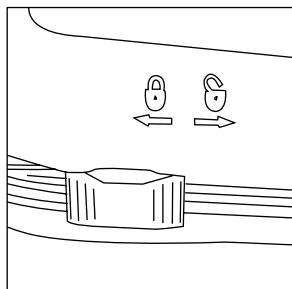

Figure 7
3. Place the chamber lid onto the chamber base and slide the six latches into the locked (  ) position (**Figure 7**). Inspect the o-ring seal and verify that the o-ring is properly seated.